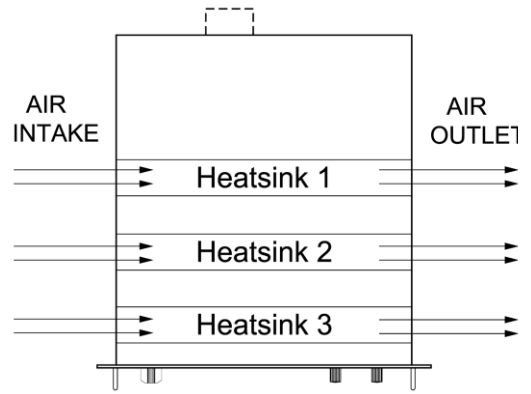

fig 9 -1
- The internal construction of the power supply is such that no dust will reach the sensitive control circuitry, the heat sinks in a tunnel will be cooled by forced air (see fig. 9 - 1)